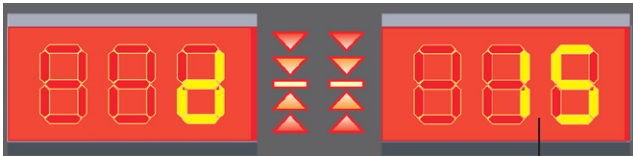

Fig. 20
Pull out the gauge rod and take it inside rim, at the distance where you wish to position the adhesive weight, if any (**Fig. 19**). Maintain this for a few seconds. The indication of the acquired measurement for the first point is given by the display of the rim diameter on D2 screen and symbol "d" on D1 screen (**Fig. 20**). The dimensions measurement in STATIC mode is completed.
Pull out the gauge rod and move it against the rim inner edge (Fig. 19) in measurement position, and maintain that position for a few seconds; measurement will be acquired when the detected value is displayed (Fig. 20). To complete the entry of all the data necessary for the DYNAMIC mode, wheel width shall be entered. If the automatic external data gauge is not available,
- take out the gauge rod and position it against the internal rim edge (ALU-S1) or inside the rim, at the distance where any adhesive weight shall be fitted (ALU-S2) at 12 o'clock (**Fig. 28**), and maintain the position for a few seconds. The measurement will have been acquired when the detected rim diameter is displayed (**Fig. 20**).